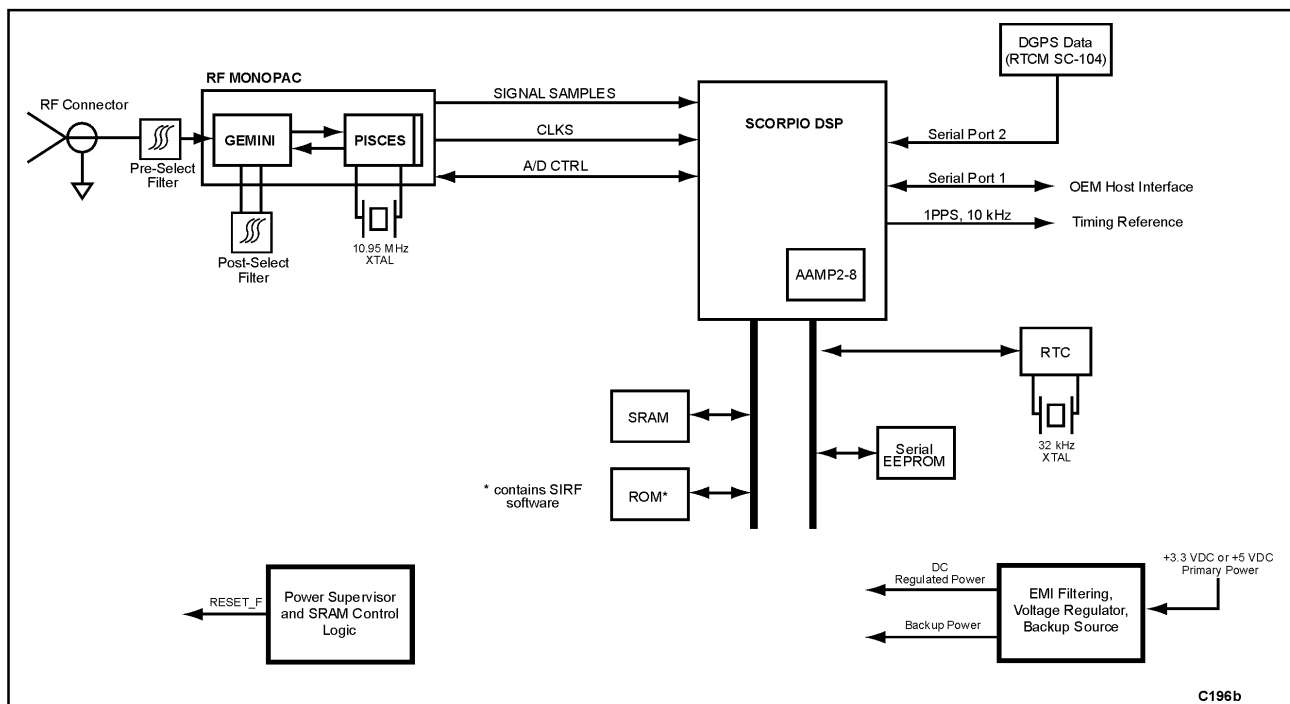
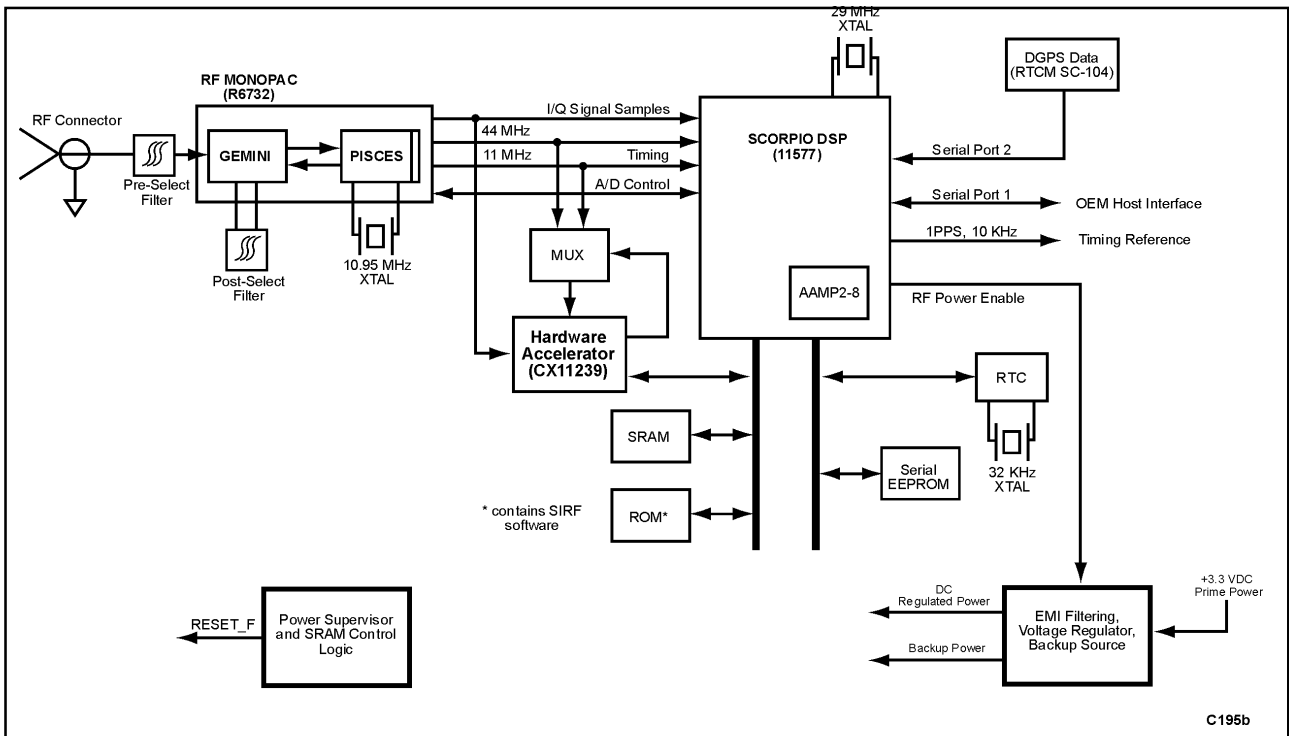
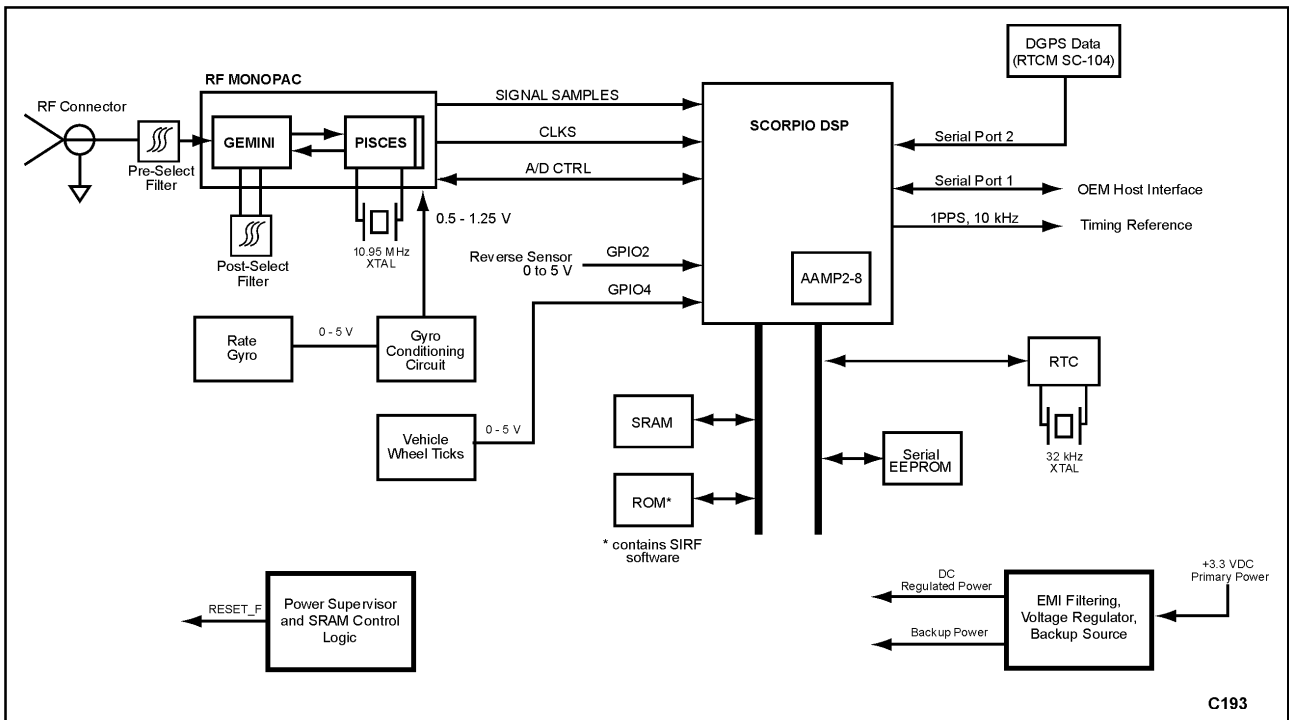

Figure 3. Basic Jupiter Block Diagram
Figure 4. Jupiter Block Diagram With The CX11239
Figure 5. Jupiter Block Diagram With Dead-Reckoning Capability
Receiver Architecture. The functional architecture of the basic Jupiter receiver is shown in Figure 3. Figure 4 shows the Jupiter with the CX11239 and Figure 5 shows the Jupiter with dead-reckoning circuitry. The receiver design is based on the SIRF Zodiac chipset: the Gemini/Pisces MonoPac™ and the Scorpio BP. The Gemini/Pisces MonoPac contains all the RF downconversion and amplification circuitry, and presents the In-Phase (I) and Quadrature-Phase (Q) Intermediate Frequency (IF) sampled data to the BP. The BP contains an integral microprocessor and the required GPS-specific signal processing hardware. Memory and other external supporting components configure the receiver into a complete navigation system.